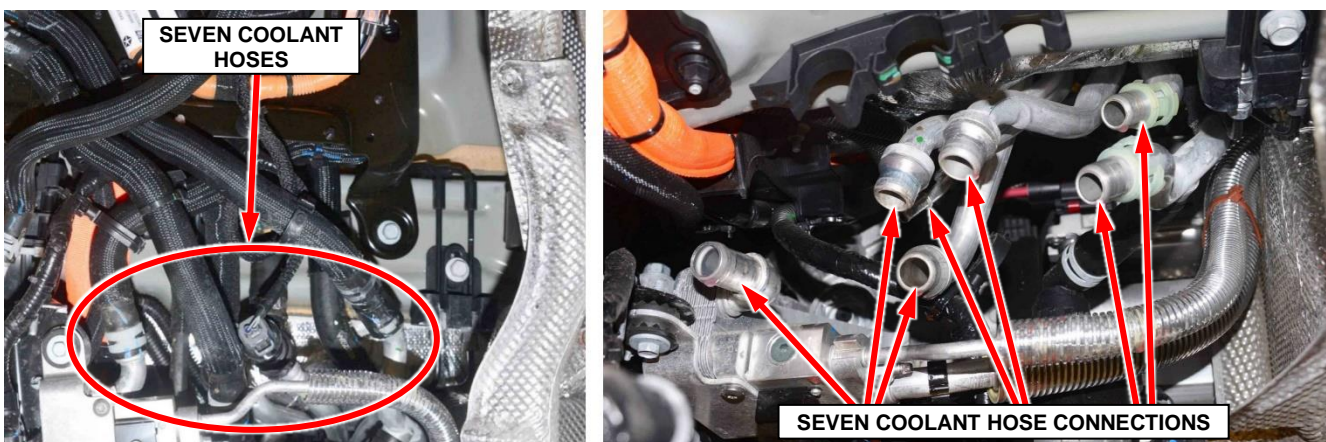

Figure 45 – Seven Coolant Hose Connections – Battery Electronics
- 69. Place a suitable coolant recovery container under the coolant hoses then disconnect the seven coolant hoses for battery electronics (Figure 45).